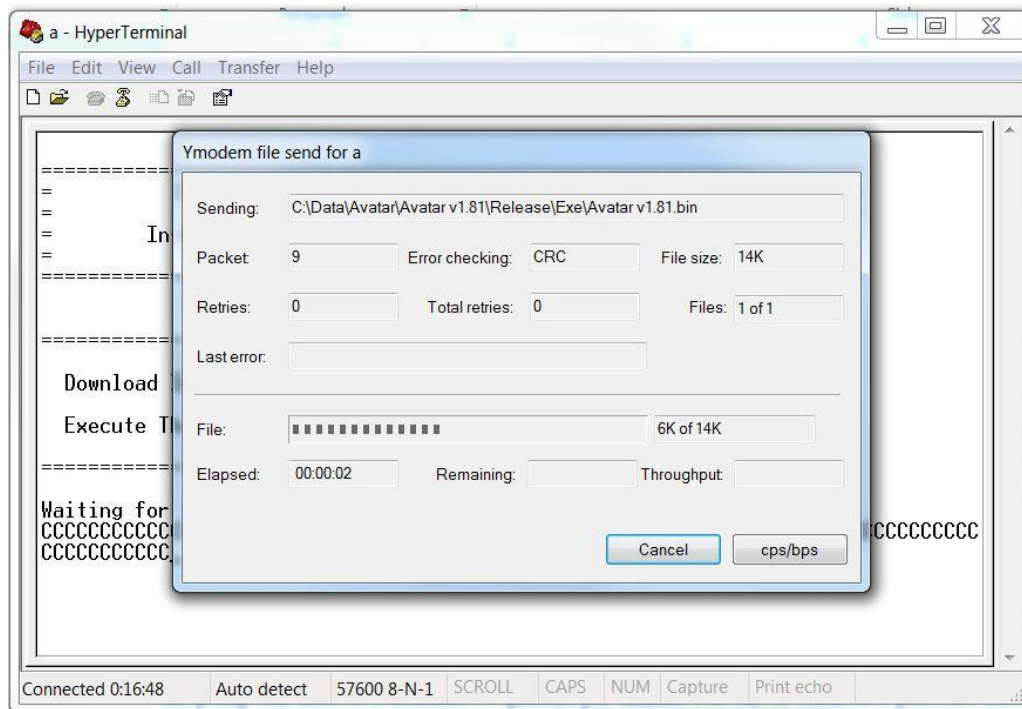
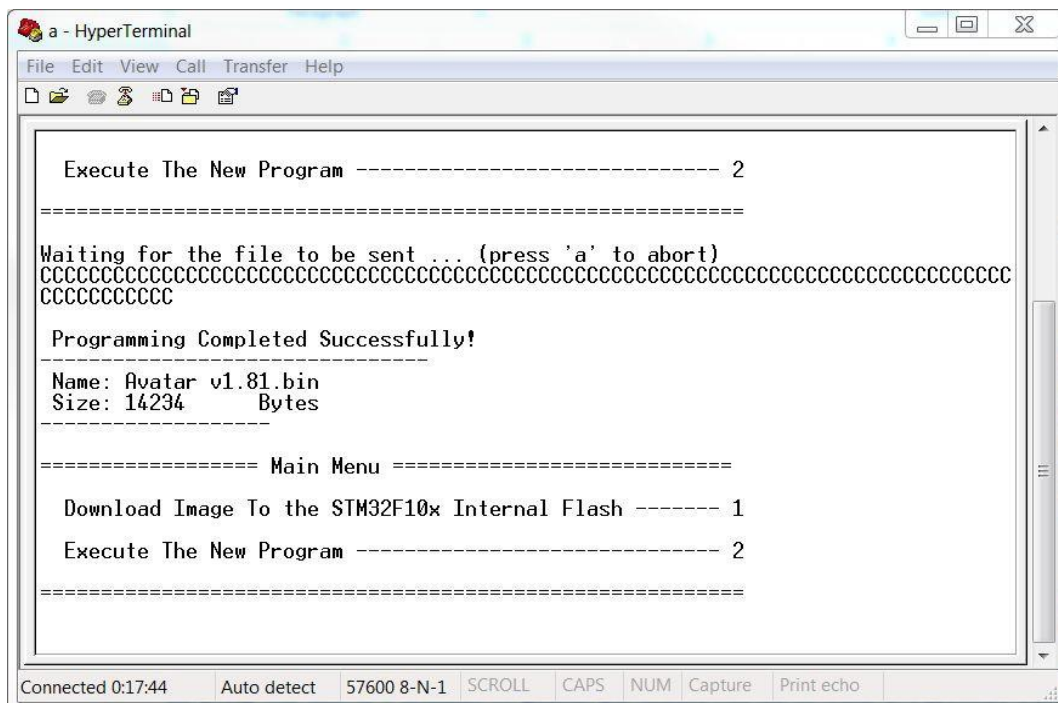

Fig. 4. Download progress window
Fig. 5. Programming status
- (6) A file download progress window as shown in Fig. 4 will open. When the download completes the progress window will close, and, if the programming was successful, the main terminal window, as shown in Fig. 5 (next page), will display the status of the programming operation along with a restated Main Menu